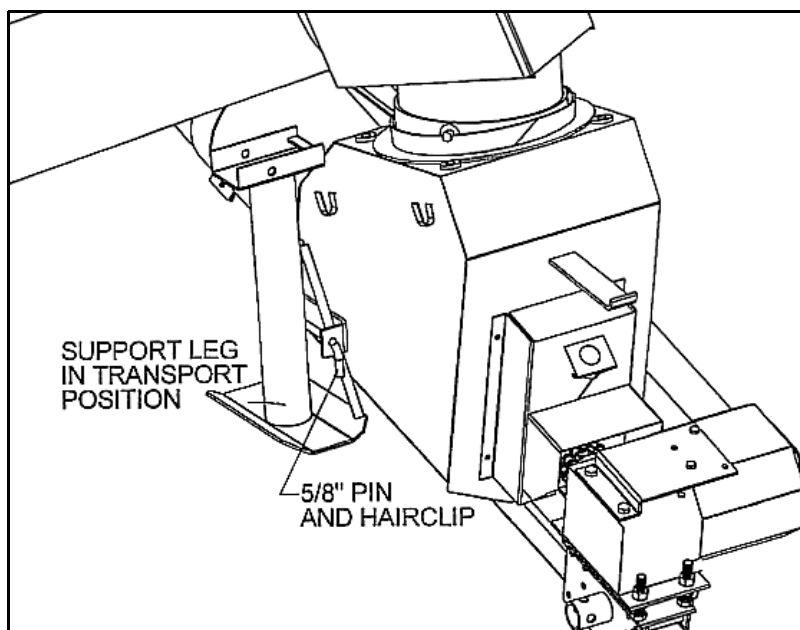

Figure 4.1
5. Attach the support leg as shown in Figure 4.1 with pin and hairclip.